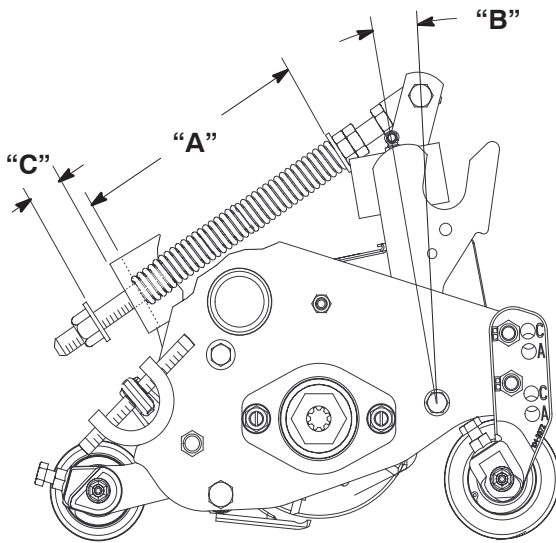

Figure 12
The turf compensation spring (Fig. 12), connecting carrier frame to cutting unit, controls the amount of fore-aft rotation available.
1. Tighten locknut on rear of spring rod until the gap (C) between rear of spring bracket and front of washer is 1.25 in. (32 mm) (Fig. 12).
2. Tighten hex nuts on front end of spring rod until the compressed length (A) of spring is 6.25 in. (328 mm) (Fig. 12).